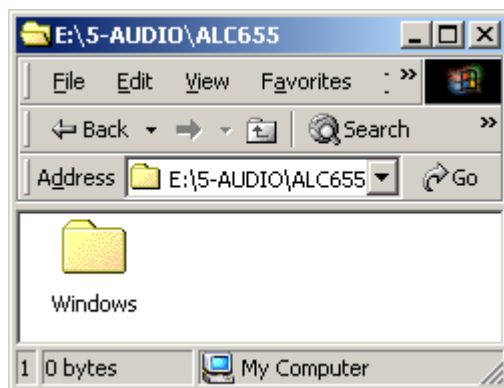

Figure 7-41: Open the Windows Folder
Step 4: A new window opens (**Figure 7-41**).